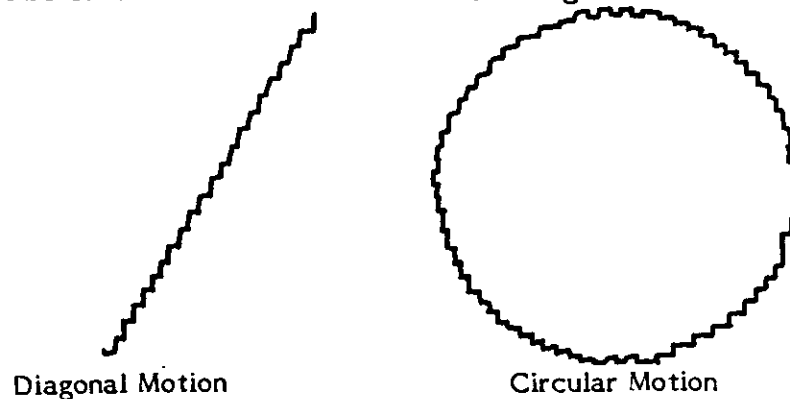

Figure 7-4. Diagonal or Circular Motion.
**NOTE:** When moving in diagonal or circular motions, the cursor will move in slight "steps". This is due to the type of programming used and should not be considered a trakball failure (see Figure 7-4).